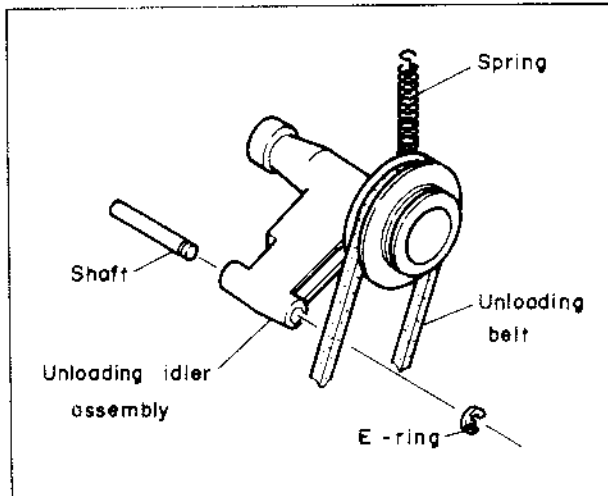

Fig. 5-17 Unloading idler assembly
7. Remove the E-ring and spring as shown in Fig. 5-17.